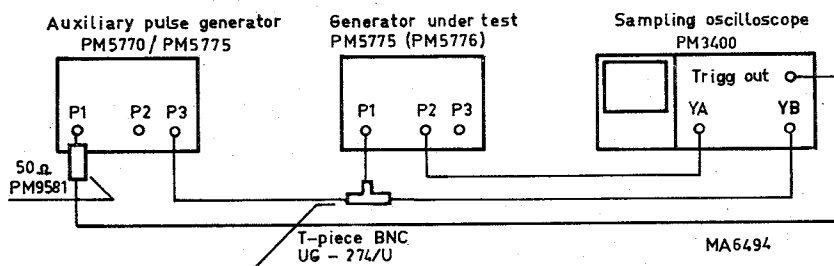

Fig. X-1. Set-up for checking the gate circuit
- Arrange the measuring set-up shown in Fig. X-1.